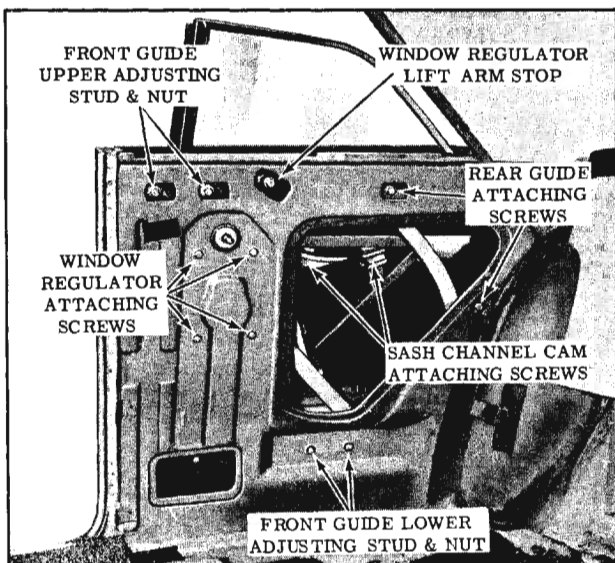

Fig. 16-67 Rear Quarter Hardware ("47" Style)
2. Remove rear quarter window rear guide attaching screw. (Fig. 16-67) Disengage rear guide from roller on window lower sash channel and remove guide.
3. With the rear quarter window in the half-down position, remove the lower sash channel cam attaching screws. (Fig. 16-67) Detach cam from roller on regulator arm and remove cam.
4. Remove rear quarter window front guide adjusting stud nuts. (Fig. 16-67)
2. Remove rear quarter window rear guide attaching screws. (Fig. 16-67) Disengage rear guide from roller on window lower sash channel and remove guide.
3. With the rear quarter window in the half-down position, remove lower sash channel cam attaching screws. (Fig. 16-67) Detach cam from roller on regulator arm and remove cam.
2. To adjust the window fore or aft, loosen the front and rear guide attaching stud nuts. (Fig. 16-67) Position the window and guides fore or aft as required; then tighten the attaching stud nuts.
3. To adjust the rear quarter window in or out, loosen the front guide upper attaching stud nuts. (Fig. 16-67) Adjust the studs in or out as required; then tighten the stud nuts.
4. To adjust the top of the rear quarter window in or out, loosen the front guide lower attaching stud nut. (Fig. 16-67) Adjust the stud in or out as required, then tighten the stud nut.
5. To relieve a binding condition between the channels of the front and rear guide, loosen the front and rear guide adjusting stud nuts. (Fig. 16-67) Operate window to full-up position and tighten upper stud nuts on the front guide and forward attaching screw on rear guide. Operate window to full-down and tighten remaining nuts.
6. To limit the forward and upward travel of the rear quarter window, adjust the regulator lift arm stop as required. (Fig. 16-67)
2. Remove rear quarter window regulator attaching screws. (Fig. 16-67) Remove regulator assembly through large access hole.
2. With window in "up" position, remove the window front guide upper and lower attaching stud nuts. (Fig. 16-67)
2. With the window in the "up" position, remove the window rear guide attaching screws. (Fig. 16-67) Disengage guide from roller on window lower sash channel and remove guide through access hole.